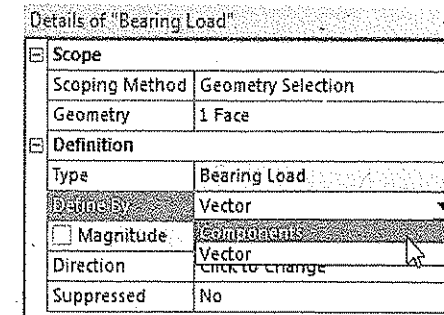
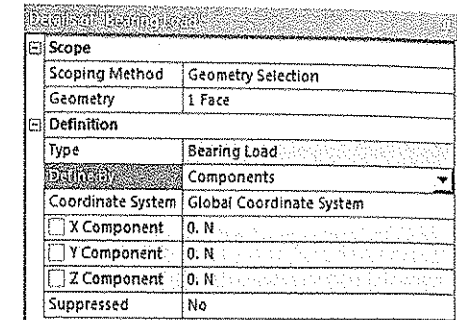

Figure 9-70 Options in the Define By drop-down list
Figure 9-71 The options in the Details of "Bearing Load" window
14. In the **Details of "Bearing Load"** window, select the **Components** option from the **Define By** drop-down list, refer to Figure 9-70; the components of **Details of "Bearing Load"** window are modified and **Coordinate System** drop-down list is displayed in it along with the **X Component**, **Y Component**, and **Z Component** edit boxes, refer to Figure 9-71.
19. In the **Details of "Bearing Load"** window, select the **Components** option in the **Define By** drop-down list, refer to Figure 9-70; the components of this window are modified and the **Coordinate System** drop-down list is displayed along with the **X Component**, **Y Component**, and **Z Component** edit boxes, refer to Figure 9-71.